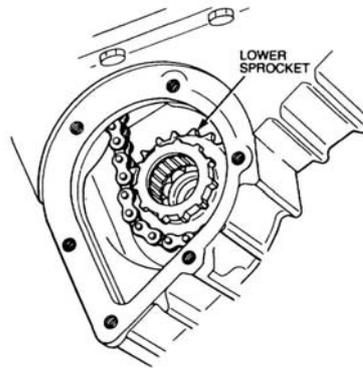

Figure 67 Removal of the PTO Chain
- h.** Lift the lower sprocket up and remove the chain from the sprocket (Figure 67). Remove the chain from the upper sprocket and withdraw the chain through the opening in the transfer case. Remove the lower sprocket from the PTO housing.